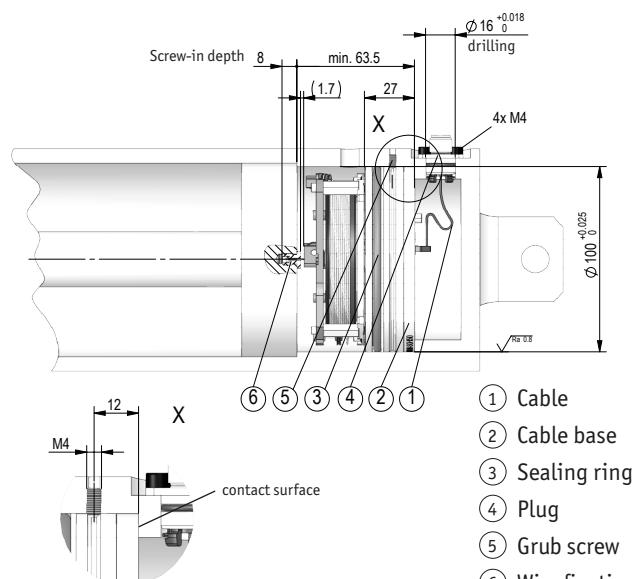

Fig. 3: Mounting in the cylinder
Mounting (Fig. 3):
3. Pull the plug insert ④ out through the plug outlet on the cylinder base. Join the plug insert with the flange enclosures incl. greased O-ring and screw it 4x at the intended position.
4. The axial fixing can be done with a securing bolt screw ⑤ as shown in **Fig. 3**. Tighten the threaded pin slightly (approx. 0.5Nm) and then turn back again approx. 0.5 turns.
For detailed information on installation refer to chapter 4.1 (Fig. 3)